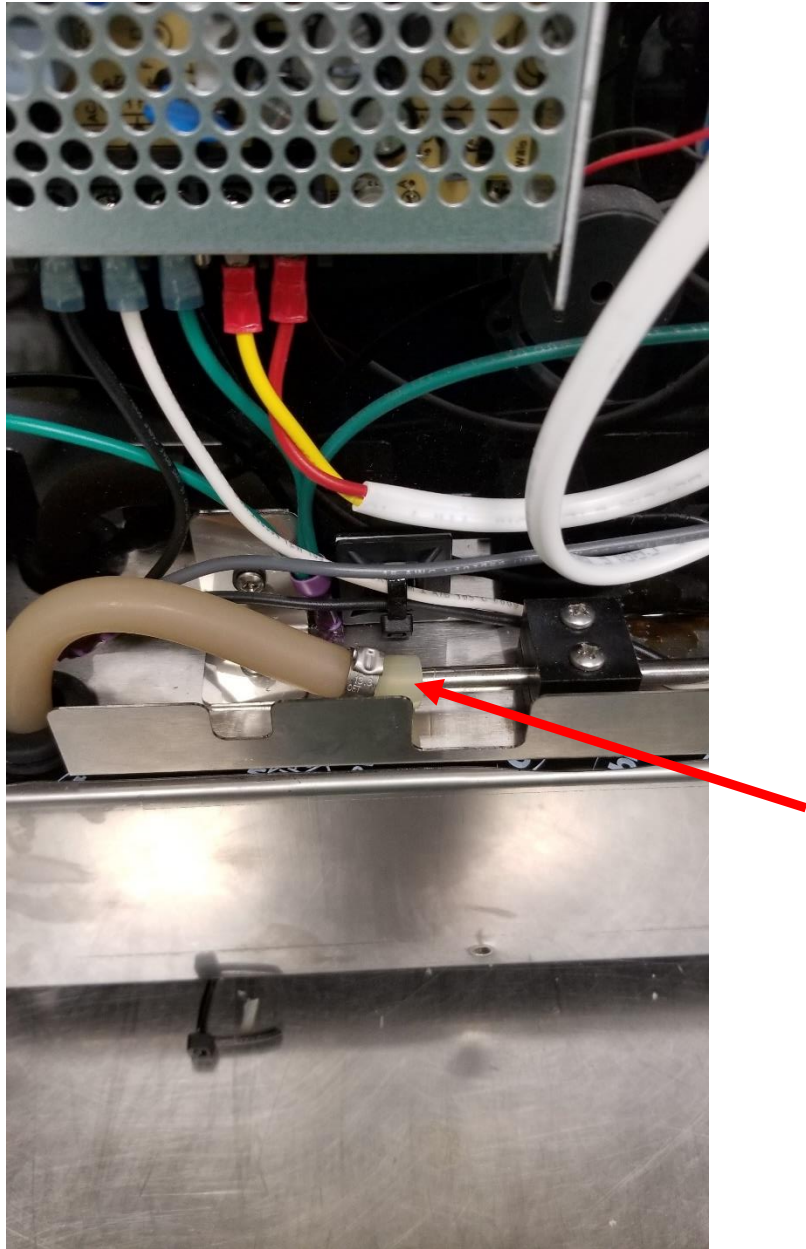

Figure 10
1. There isn't a great need to remove the PEX clamp at this point as you can just slide it off the tube, since it is not a barb fitting. See Figure 10.